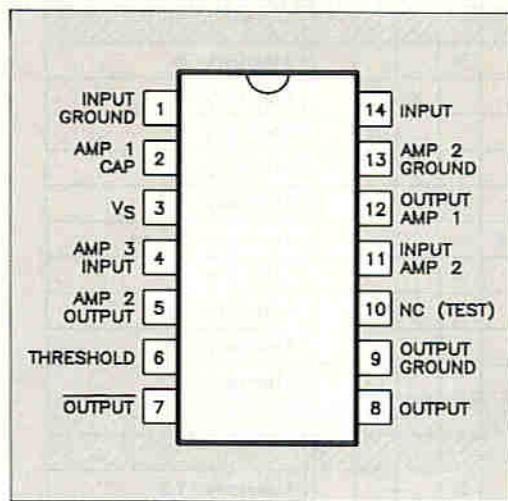

Figure 9. TBA2800 Pin out.
1. The IR receiver uses a TBA2800, IC3, its pin out is shown in Figure 9 with a full listing of its absolute and recommended operating conditions given in Figure 10. The operation of this IC can be simplified in four separate procedures as depicted in Figure 11. All stages are powered from a common +5V supply rail on pin 3 which is decoupled by C19 and C20.